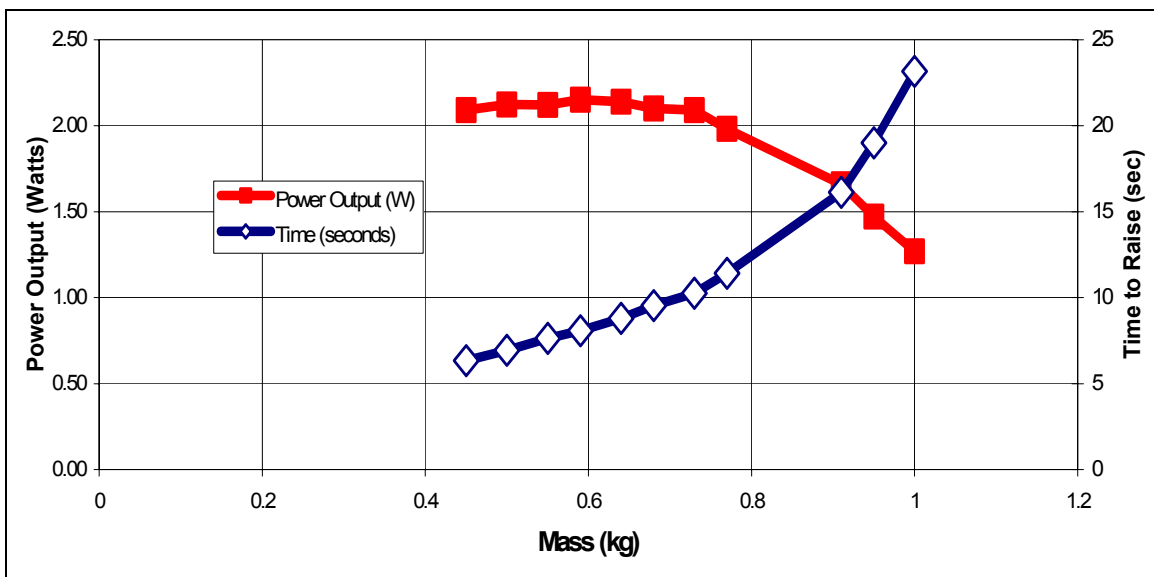

Figure 5: Sample Results – Graph should fill approximately ½ page.
- iii. Neatly formatted plot(s) of Power Output (in Watts) and Time to Raise Mass (in seconds) as a function of the mass lifted (in kg) (similar to Figure 5)